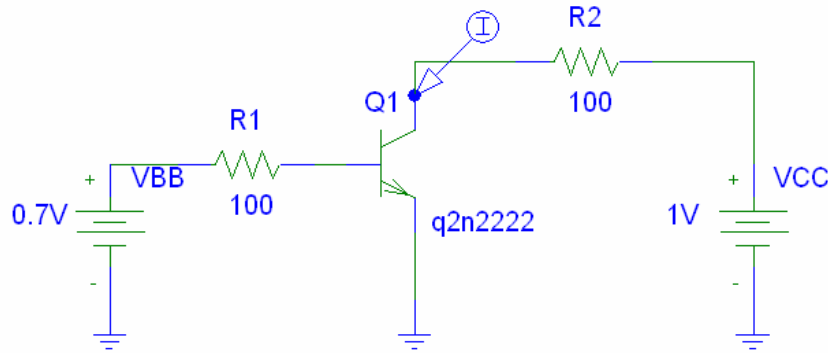

Fig. 4. BJT transistor circuit 2
1. Obtain the value of I_S from a simple simulation of the transistor: using the setup of Fig 4, excluding the resistors, apply $V_{BB}=0.65V$, measure I_C while $V_{CE} > 0.5$ V and use equation 1. Assume that $n=1$. Use the Q2N2222 BJT in the simulation;
5. Construct the circuit shown in Fig. 4 in Pspice. Place a current marker on the collector of the Q2N2222. Run a DC Sweep on the V_{BB} voltage source to generate the input characteristics. Do a linear sweep starting at 0 and ending 2V with a linear increment of 5mV. **Modify the x-axis variable to be the V_{BE} voltage, not V_{BB} .** Comment on your results for all regions of the plot.